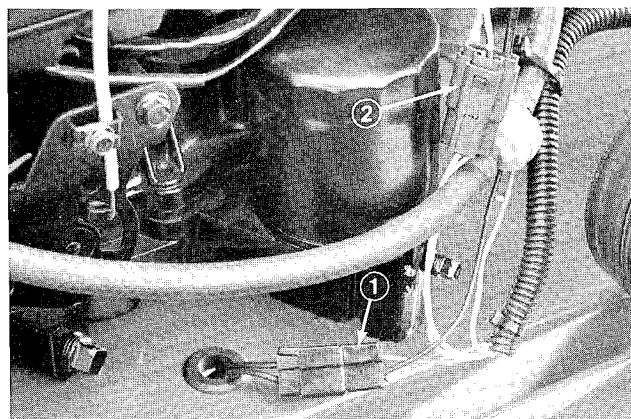

Figure 6
1. Secure clutch and engine in-line connectors (Fig. 6).
3. Secure wire harness to fuel line (above fuel filter) with a cable tie as shown in Fig. 6.